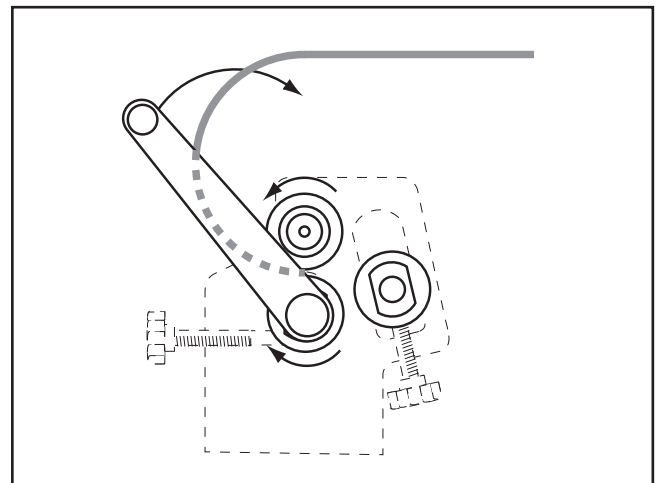

Figure 26. Re-inserting the workpiece.
5. Rotate the workpiece 180°, insert the curved end into the slip roll, then process the workpiece through the machine, as shown in **Figures 26** and **27**.